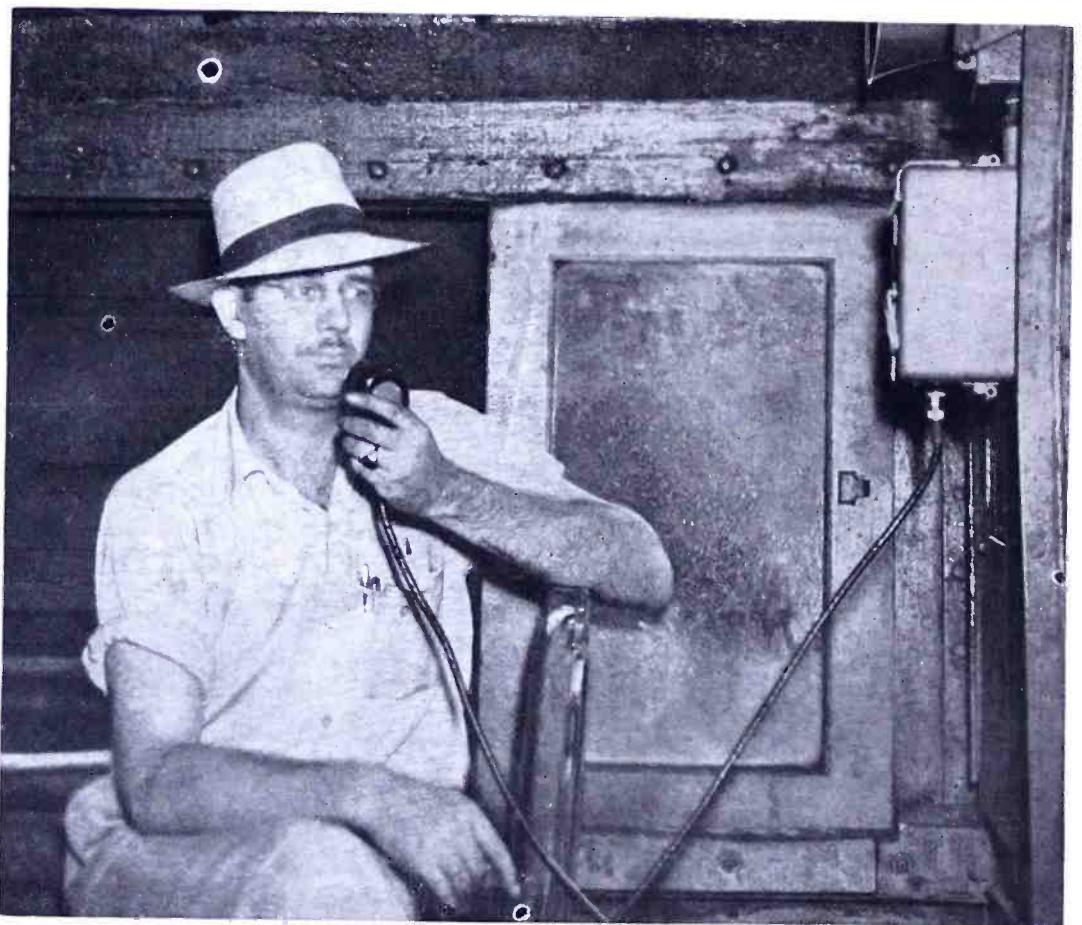

FIG. 9. CHIEF ELECTRICIAN C. S. COLVIN IN THE CAB OF NO. 3. CONTROL IS AT THE RIGHT
**Locomotive Control Units** ★ The locomotive cab control unit consisted of a volume control, transmit-receive relay, on-off switch, indicating lights, intercom switch, channel selector switch, test switch for opening the squelch circuit, squelch control, and a noise reducing microphone. This is shown in Fig. 9.